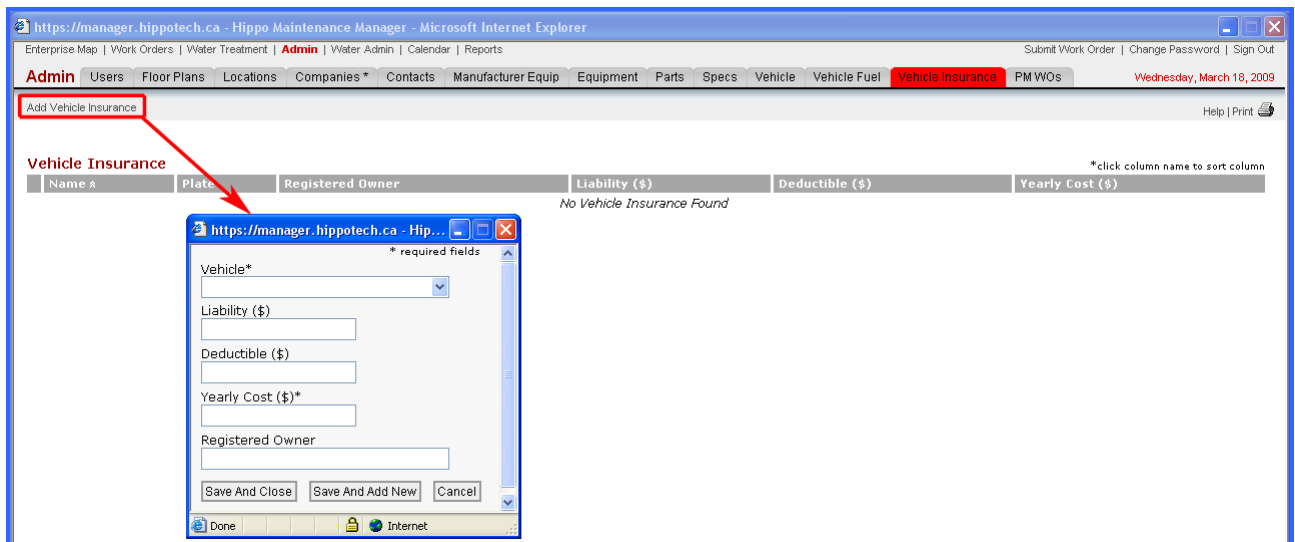

Figure 53: Add Vehicle Insurance
2. Click **Add Vehicle Insurance** sub-menu item to display the Add Vehicle Insurance window (See Figure 53).